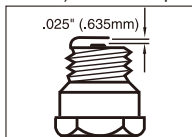

Fig. 18
1. Spark plug gap = .025" (.635mm) (Fig.18).